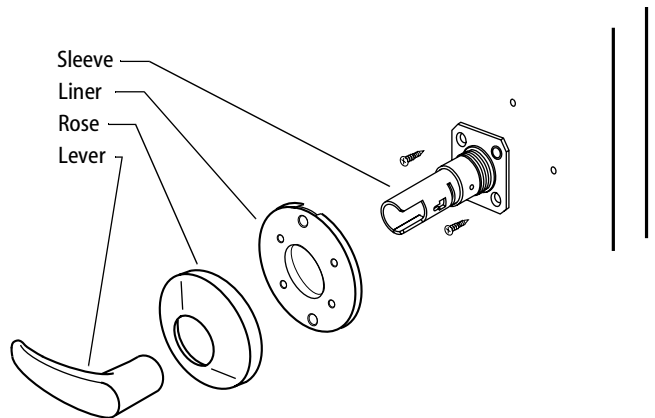

Figure 4 — Installing the 9K single dummy trim
- 2 Thread on the liner until it seats against the door. See Figure 4.